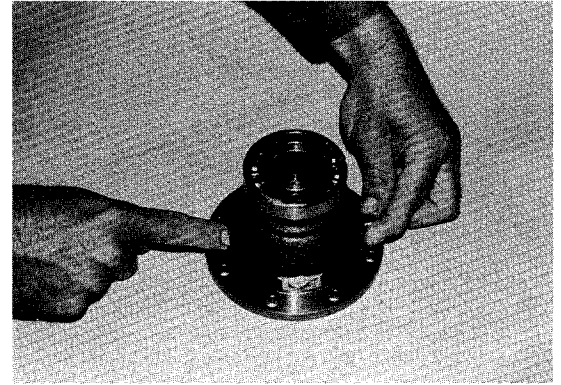
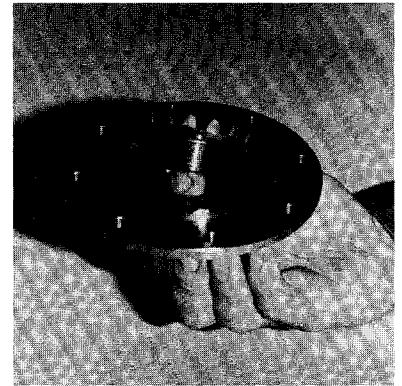

Figure 11-18
Figure 11-19
18. Remove differential pin (17) by pushing from one side (Figure 11-18).
19. Remove idler gears (15) and thrust washers (19).
20. Remove differential side gears (16) and thrust washers (18) (Figure 11-19).
21. Inspect bearings (23) of differential cage gear and replace if damaged. To remove, press bearings off.